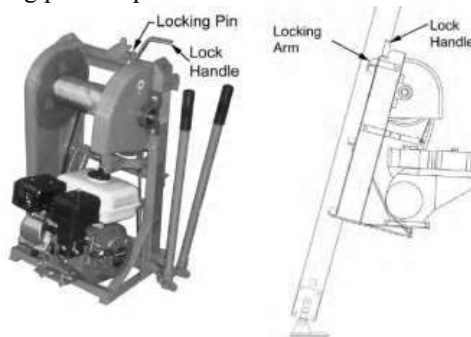

Figure 4
- Push the base of the ladder hoist inward, having the back of the power unit flush to the 2nd and 3rd rungs, as shown in Figure 4